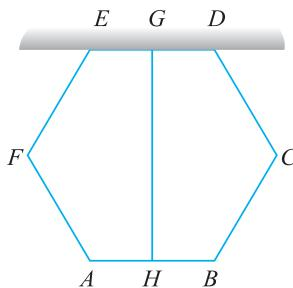

Fig. 16.21.
**Example 16.11.** A hexagonal frame is made up of six bars of equal length and cross-section as shown in Fig. 16.21. The bar ED is fixed in a horizontal position.